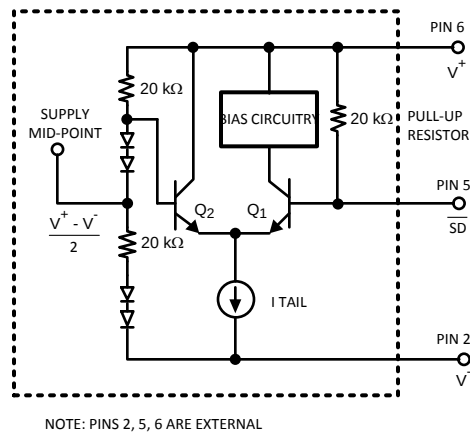

Figure 28. $\overline{\text{SD}}$ Pin Simplified Schematic (SOT-23 Pinout Shown)
For 5-V supplies only, the LMH6703 has a TTL logic compatible disable function. Apply a logic low ($< 0.8 \text{ V}$) to the $\overline{\text{SD}}$ pin and the LMH6703 is disabled. Apply a logic high ($> 2.0 \text{ V}$), or let the pin float and the LMH6703 is enabled. Voltage, not current, at the Shutdown pin (SD) determines the enable/disable state. Care must be exercised to prevent the shutdown pin voltage from going more than 0.8 V below the midpoint of the supply voltages (0V with split supplies, $V^+/2$ with single supply biasing). Doing so could cause transistor Q1 to Zener resulting in damage to the disable circuit (See Figure 28). The core amplifier is unaffected by this, but the shutdown operation could become permanently slower as a result.